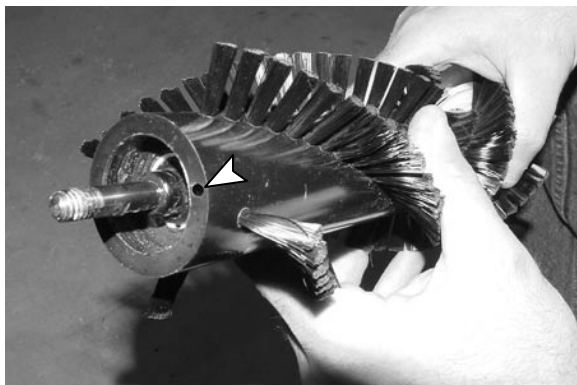

FIG. 6
6. Mount new brush, (2) bearing blocks and spacer to brush shaft in reverse order of dis-assembly (Figure 6).